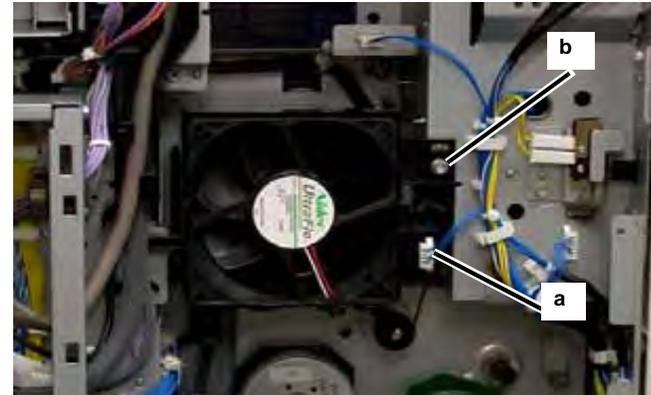

Figure 2 Fuser Exhaust Fan
3. Remove the Fuser Exhaust Fan Assembly (Figure 2).
- b. Remove the Screw (1) and the fan assembly.